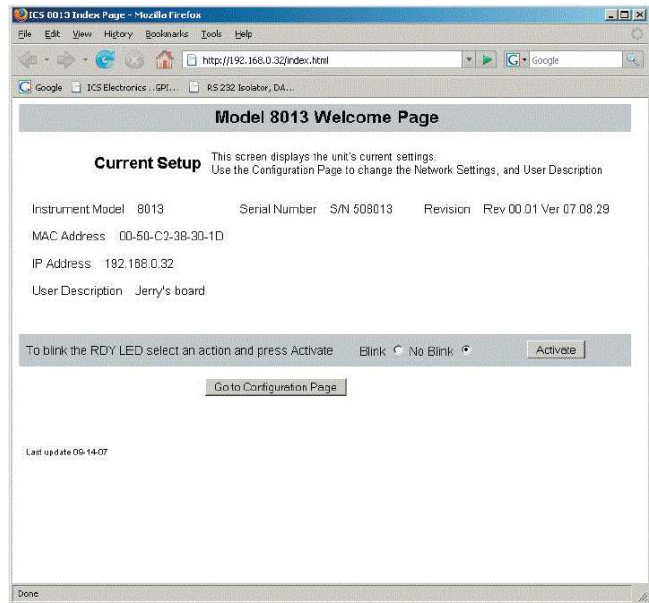

Figure 5.3 - 9006 Welcome Page
5. A Welcome Page similar to the one shown Figure 5.3 should appear in your browser.